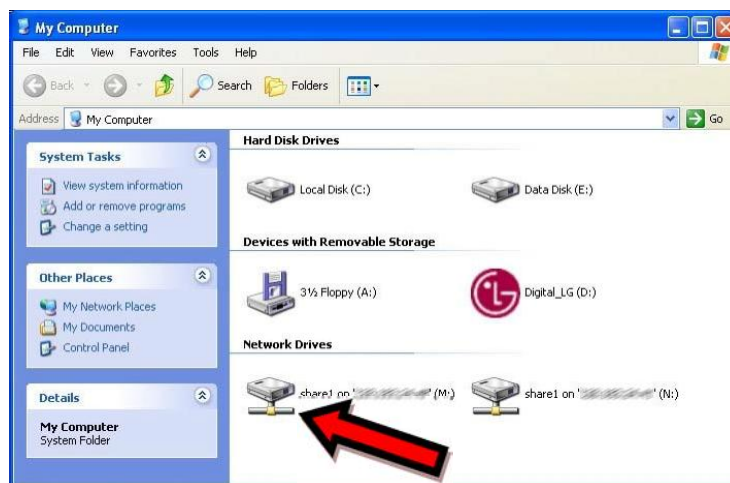

Figure 3-8: Screenshot of Drive Mappings
7. **Verify that the M: drive is mounted** – Double click on My Computer, then on the M: drive. A window should pop up indicating that the camera computer is able to mount the NFS share on POP (Figure 3-8). Close the window and continue to the next step.